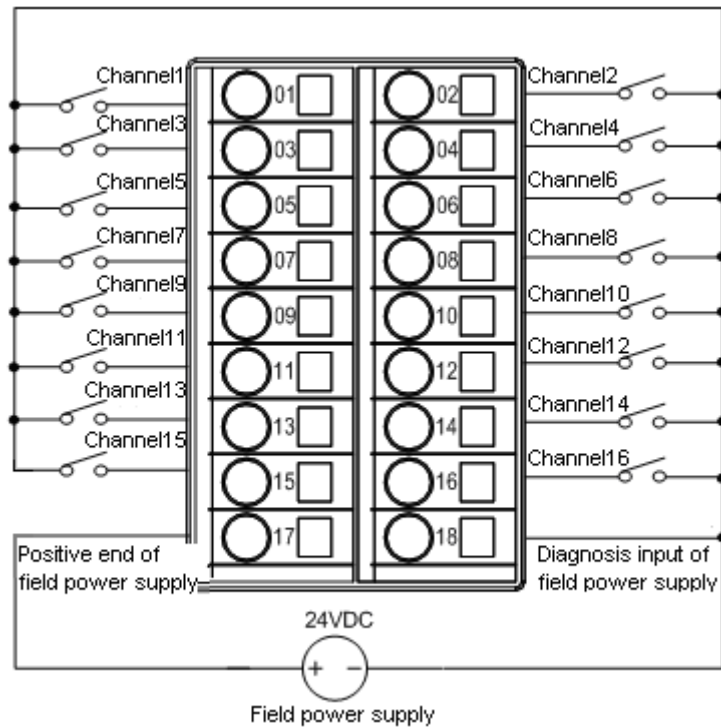

Figure 8.11: Wiring of LK611 Backplane Terminals
- LK611 module is connected to field signals through the correspondence terminals under the local backplane installation slot. The relationship between each channel and terminal is shown in Figure 8.11. One ends of the 16 channel contacts connect to the wiring terminals (01~16) of the correspondence channels while the other ends connect to the negative end of field power supply.